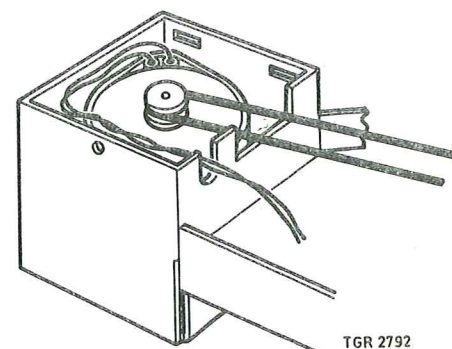

Fig. 8
- To prevent interferences, the anti-interference beads should be slid as far as possible along the connecting wires of the motor and be placed in the correct corner of the motor housing (see Fig. 8).